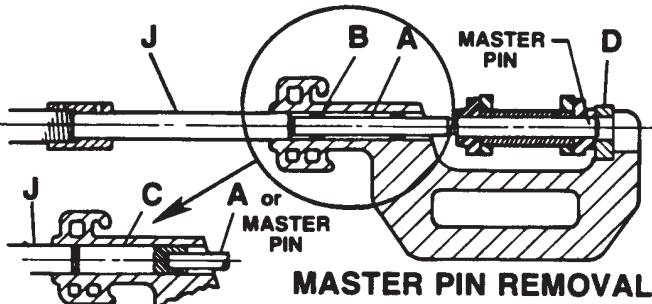

FIGURE 2
**NOTE:** Refer to the tooling charts to find the tooling needed for your specific application. Refer to Figure 2 when assembling the tool components indicated by the tooling chart.
1. Install the aligning adapter (D) into the "C" frame and secure with the thumb screw.
2. Install the appropriate rear forcing pin (J) into the bore of the screw coupling.
3. If required, install the pilot pin (C) into the bore of the "C" frame against the end of the rear forcing pin (J).
4. Install the appropriate forcing pin (A) into the bore of the pilot pin.
**NOTE:** If the pilot pin is not needed, place the appropriate aligning bushings (B) on the forcing pin (A). Insert this assembly into the bore of the "C" frame until it butts against the rear forcing pin (J).
6. Turn the cylinder adjusting screw crank until the forcing pin (A) meets the track master pin. Attach the hydraulic pump, and advance the ram to remove the master pin from the track.
- As the master pin begins to push out, be sure it clears the aligning adapter (D).